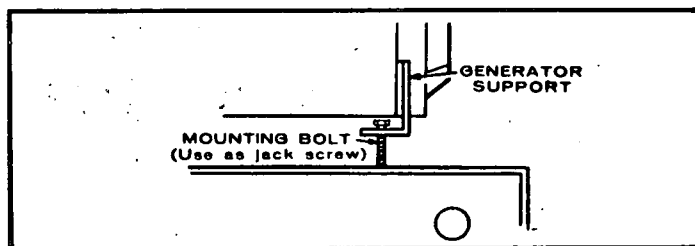

FIGURE 4.
3. After determining the proper clearance for each side of the skid base, turn jackscrews in the threaded holes to allow a clearance for placing the shims between skid base and generator support. (Figure 4).